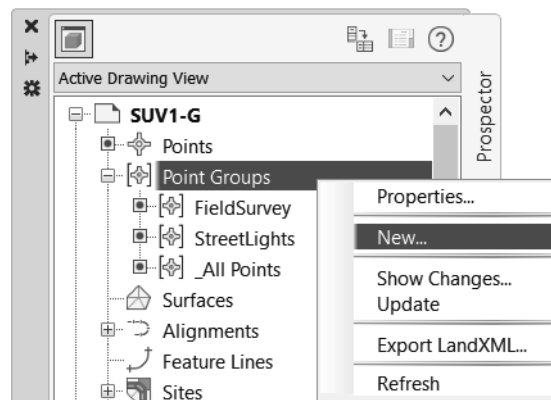

Figure 2–97
2. In the Toolspace, *Prospector* tab, select **Point Groups**, right-click, and select **New...**, as shown in Figure 2–97.
3. In the Point Group Properties dialog box, in the *Information* tab, type **Boundary Pin Survey** in the *Name* field, set the *Point style* to **ASC-Iron Pin**, and set the *Point label style* to **ASC-Elevation and Description**, as shown in Figure 2–98.